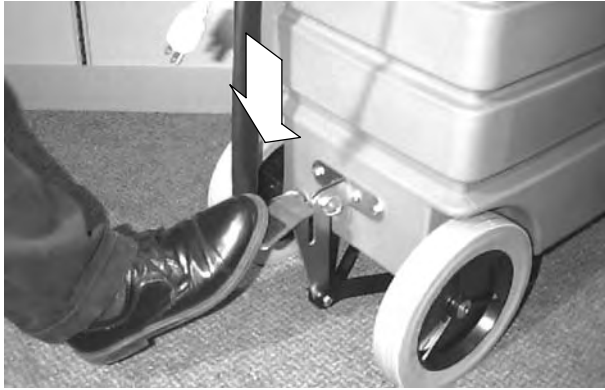

FIG. 11
4. To raise squeegee, step downward on the pedal until pedal engages in transport position (Figure 11).